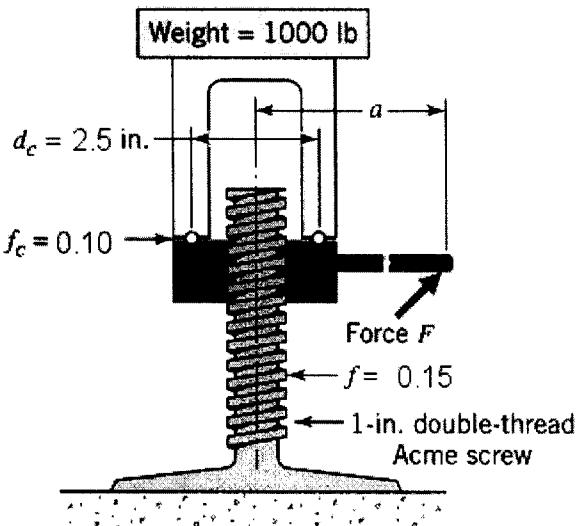

Figure 2
2.2 In Figure 2, a screw jack with a 1-in., single-thread ACME screw is used to raise a load of 1000 lb. A plain thrust collar of $2\frac{1}{2}$ -in., mean diameter is used.